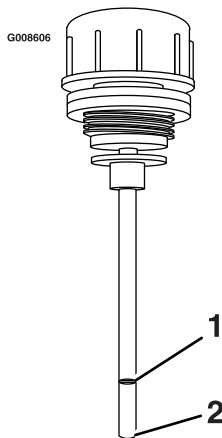

Figure 68
7. Place the dipstick into the filler neck, remove it, and check the fluid level (Figure 68).